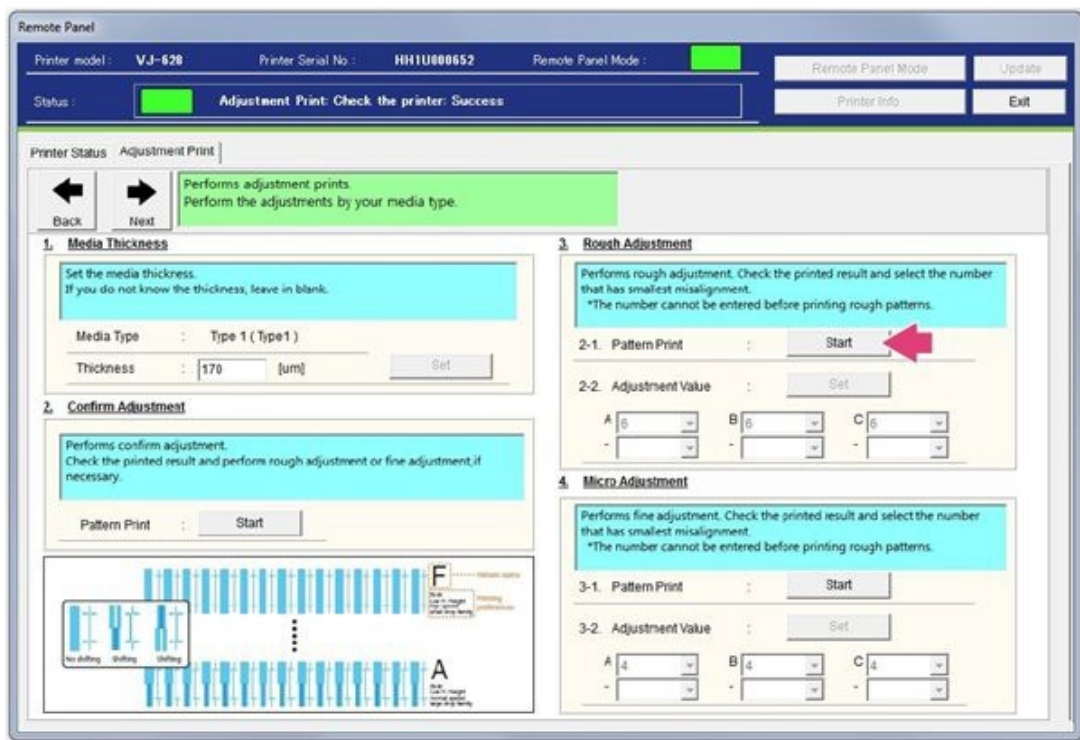

Figure 82
69. Under the Rough Adjustment section select **Start**. See Figure 82.